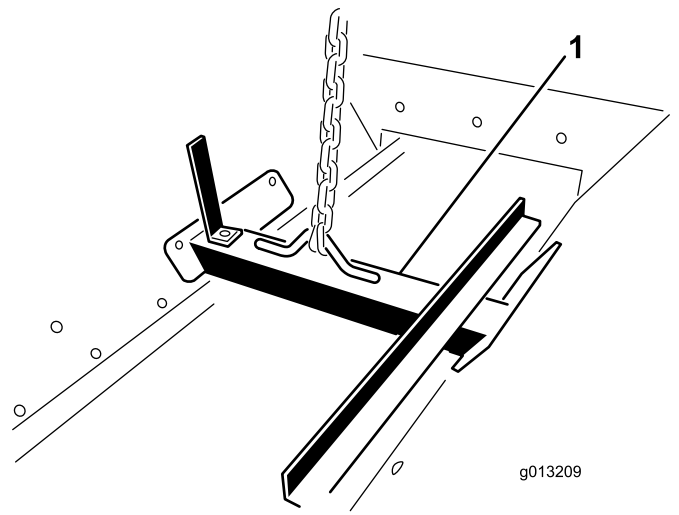

Figure 15
1. Attach a lifting device to the lifting bracket bolted inside the hopper assembly (Figure 15).